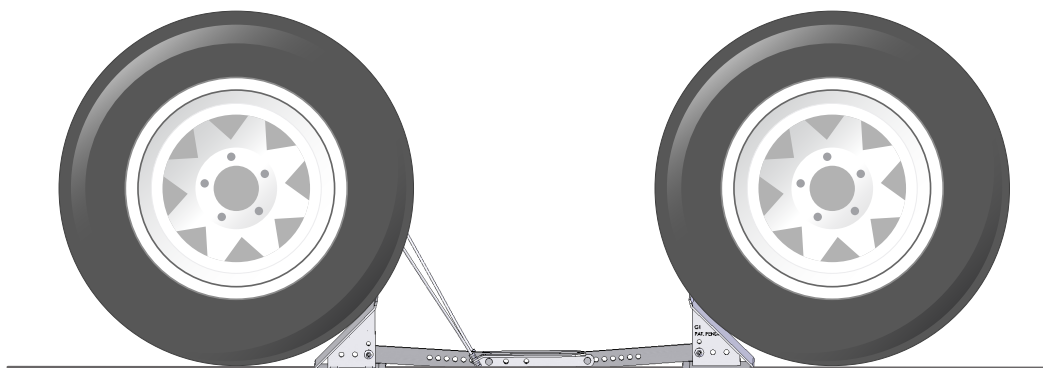

Figure 3
6. Place the chock between the tires again. It should fit snugly between the tires, with the center arms not dropping all the way to the ground. Step down on the center arms to lock the chock into place. Pull up on the cable handle to remove the chock. See Figure 3.